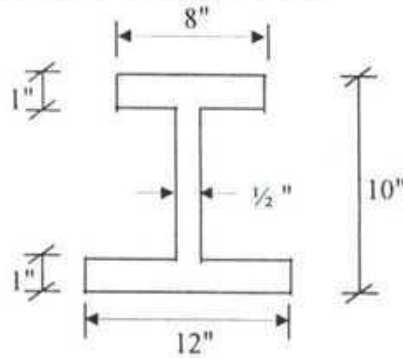

Fig. 2
- (c) The section shown in Fig. 2 is selected to be used as compression member. Check in accordance with AISC specifications whether the section satisfies local buckling criteria for two different yield strengths 36 ksi and 65 ksi. (6)